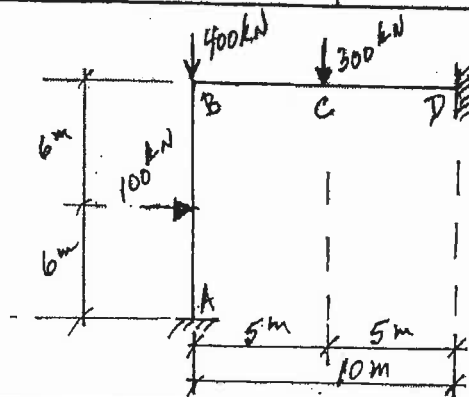

FIGURE 5
- (14+6) 7. The rigid frame ABCD, loaded as shown in Figure 5, is to be designed in reinforced concrete.